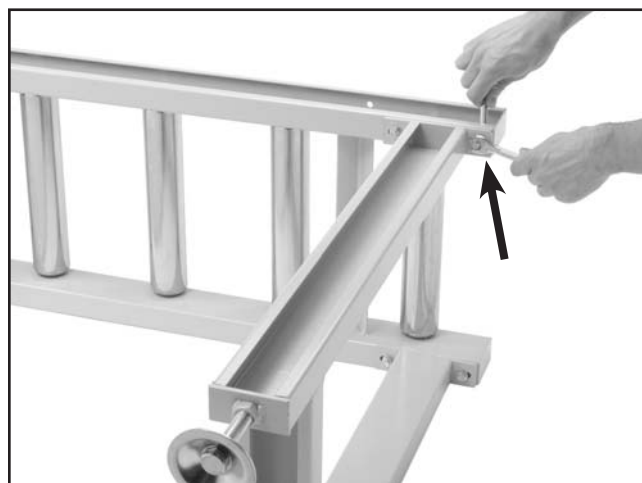

Figure 11. Attaching stand leg/foot assembly to roller table.
- Using four of the hex bolts, flat washers, and hex nuts, attach the stand leg/foot assembly to the left roller assembly, as shown in **Figure 11**. (The left roller table has a rail along the edge.)